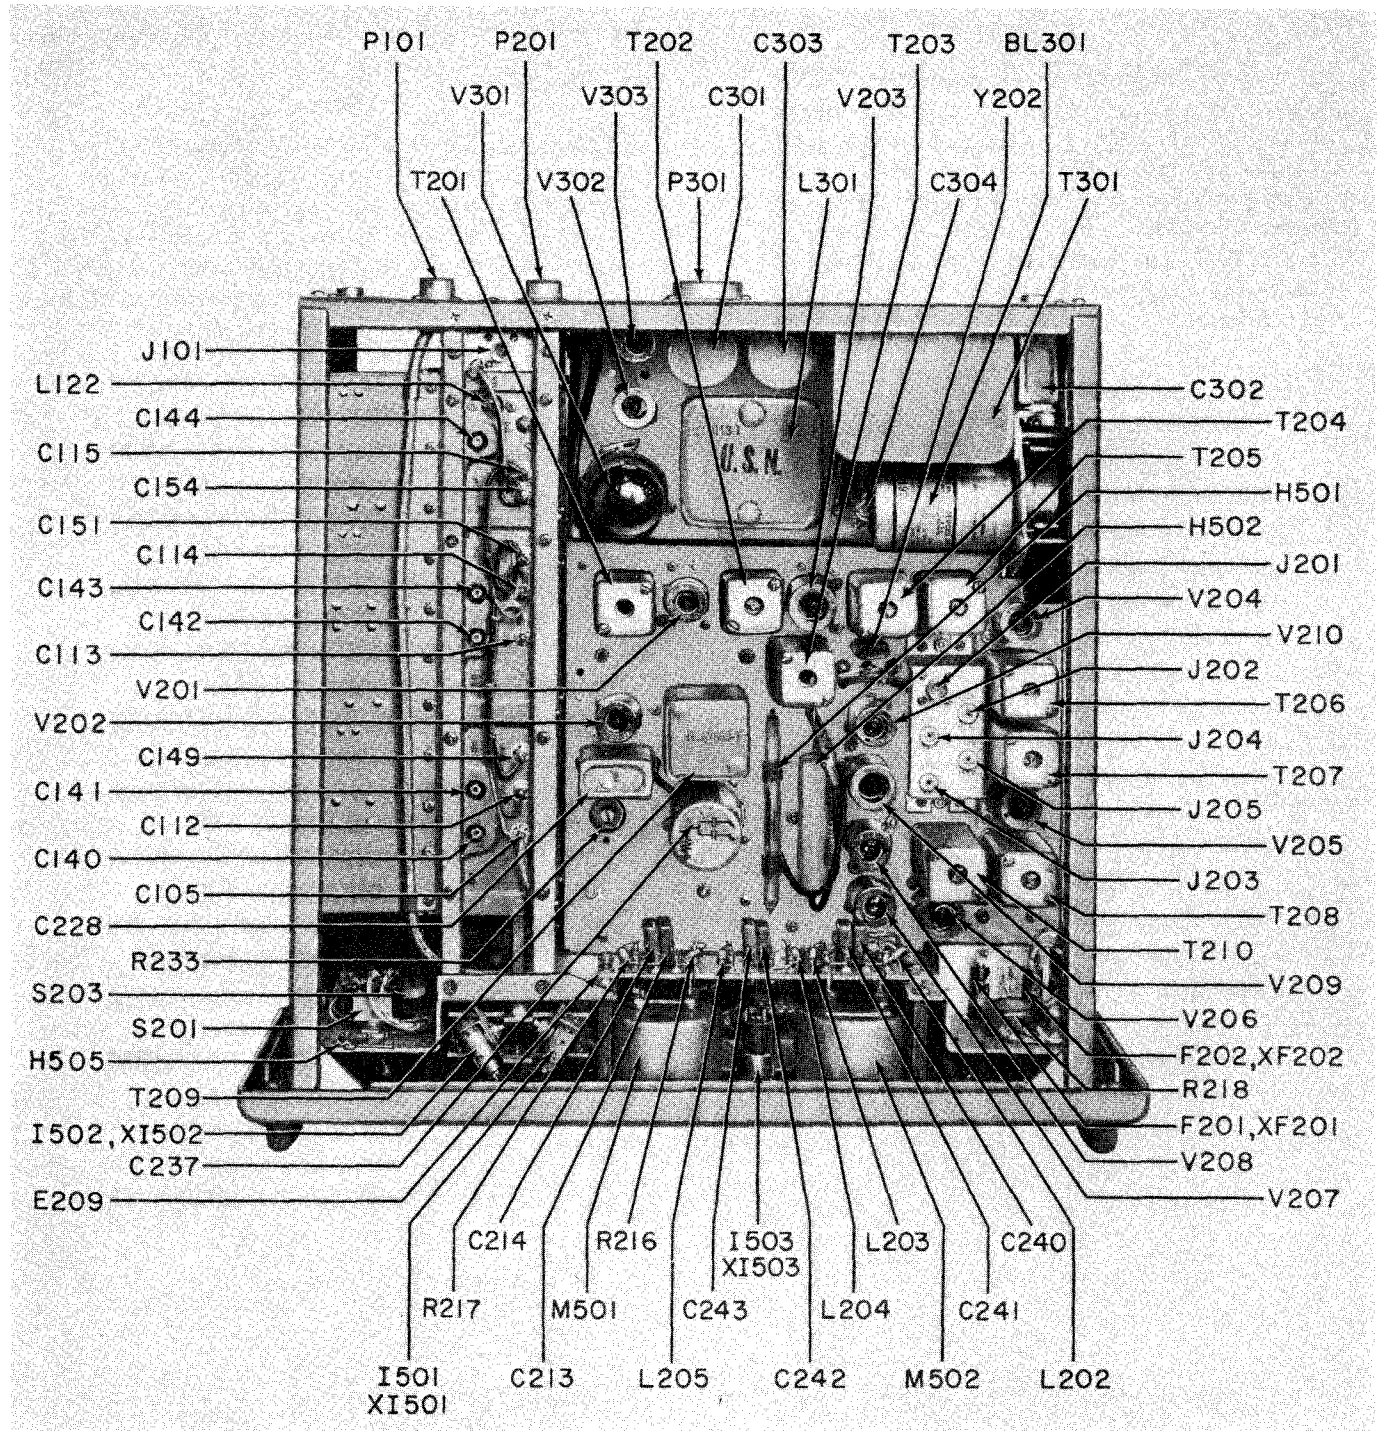
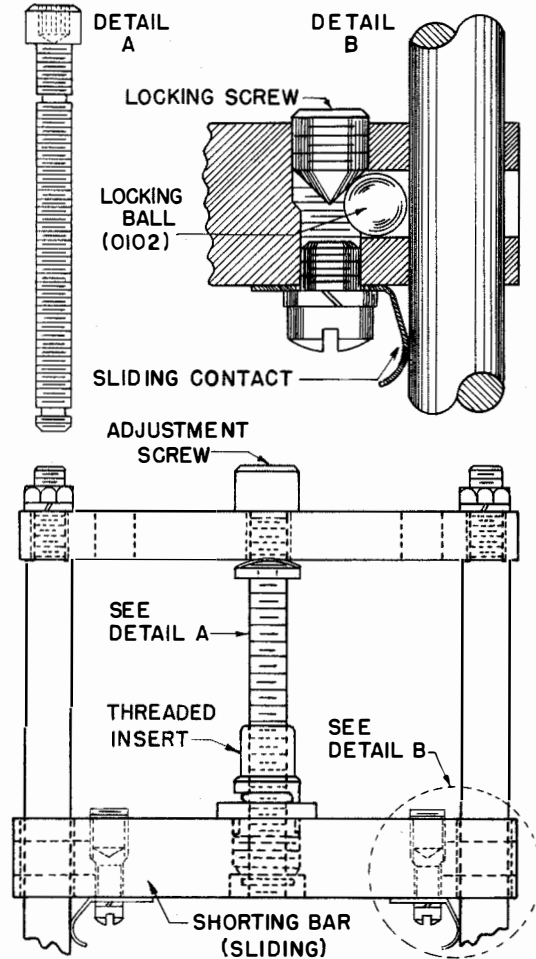

Figure 7-5. Radio Receiver R-482A/URR-35, Top View—Identification of Components
Figure 7-9. Details of Trimmer Inductances L103, L104, L107, L108, L111 and L112
(1) RF Signal Generator AN/URM-25 series, Navy Model LP series, or equivalent signal generator having output impedance of 50 ohms.
(2) RF Signal Generator AN/URM-26 series, or equivalent.
(3) Multimeter ME-25/U series, Vacuum Tube Volt-Ohm-Milliammeter Navy Model OBQ series, or equivalent.
(4) Insulated alignment tool H501 and alignment loading tool H502, both mounted in clips on receiver chassis; see figure 7-5.
FUSE HOLDERS XF201 AND XF202 AT THE RIGHT SIDE OF THE FRONT SUB-PANEL; SEE FIGURE 7-5.
(1) Connect the output of RF Signal Generator AN/URM-25, or Navy Model LP, or equivalent, to 18.6-mc test jack J101 (see figure 7-5). Use type RG-58/U cable for connections.
Refer to figures 7-5 and 7-6 for the locations of test jacks, i-f transformers and their terminals, and controls, as well as for the use and location of alignment tool H502.
(1) Perform steps (1) through (5) of paragraph 4c, this section.
(2) Turn the output control of the signal generator to zero and note the AGC voltage, as indicated on the electronic multimeter. Increase the signal generator output until the AGC voltage just starts to increase.
(3) Connect the electronic multimeter between detector test jack J203 (see figure 7-5) and ground.
(4) Tune transformer T210 (see figure 7-5) for *minimum* indication on the electronic multimeter.
(1) Connect the electronic multimeter between AGC test jack J204 (see figure 7-5) and ground.
(2) Set the OSC. switch to its MANUAL position.
(3) Tune the receiver throughout its entire range to find the lowest AGC voltage as indicated by the electronic multimeter.
(4) If the AGC voltage on the electronic multimeter is other than -2.3 volts, adjust it to that value by means of I.F. GAIN control R233, shown in figure 7-5. If it is not possible to adjust the AGC voltage to -2.3 volts, set it to the greatest negative voltage that can be obtained, which should be at least -2.0 volts. A maximum AGC voltage of less than -2.0 volts indicates a faulty receiver.
A D-C POTENTIAL OF 180 VOLTS IS PRESENT AT SOME OF THE INDUCTANCE AND CAPACITOR TRIMMER SCREWS AND AT SOME OF THE TRIMMER-INDUCTANCE LOCKING SCREWS. WHEN LOOSENING OR TIGHTENING THE LOCKING SCREWS BE CERTAIN THAT RECEIVER POWER IS OFF. USE THE INSULATED ALIGNMENT TOOL (H501, FIGURE 7-5) FOR ALL SPLINED TRIMMER-SCREW ADJUSTMENTS.
(1) De-energize the receiver and remove the shielding covers from the preselector. Loosen the locking screws on trimmer inductances L103, L104, L107, L108, L111 and L112 (see figures 7-9 and 7-10) about one-eighth of a turn, using the Bristol wrench (H505, figure 7-5) mounted near the dial-drive assembly. Replace the shielding covers.
(2) Connect the output of RF Signal Generator AN/URM-26, or equivalent, to the 50 OHM ANT. input connector (J404) on the low-pass filter. Adjust the output attenuator of the signal generator for minimum output.
(3) Install a crystal, in the receiver CRYSTAL holder, which corresponds to some channel frequency between 230 and 234 megacycles, as determined by the formula:
(5) Place the probe of the electronic multimeter on second-doubler-grid test point C124 and tune second-doubler-grid inductance L115 for a maximum meter reading.
(6) Place the probe of the electronic multimeter on tripler-grid test point C131 and tune tripler-grid inductance L117 for a maximum meter reading.
(7) Place the probe of the electronic multimeter on the trimmer screw of mixer-grid inductance L111 and tune tripler-plate inductance L112 for a maximum meter reading.
(8) Connect the electronic multimeter between AGC test jack J204 and ground; see figure 7-5.
(14) Place the probe of the electronic multimeter on second-doubler-grid test point C124 and tune second-doubler-grid trimmer capacitor C147 for a maximum meter reading.
(15) Place the probe of the electronic multimeter on tripler-grid test point C131 and tune tripler-grid trimmer capacitor C145 for a maximum meter reading.
(16) Place the probe of the electronic multimeter on the trimmer screw of mixer-grid inductance L111 and tune tripler-plate trimmer capacitor C146 for a maximum meter reading.
(17) Connect the electronic multimeter between AGC test jack J204 and ground; see figure 7-5.
(18) Tune the signal generator for a maximum reading on the meter. The output attenuator of the signal generator should then be adjusted to give a reading of approximately 4 volts on the electronic multimeter (0.4 on the INPUT meter).
(19) Using the alignment tool (H501), tune the r-f amplifier and mixer trimmer capacitors for a maximum reading on the electronic multimeter, in the following order: